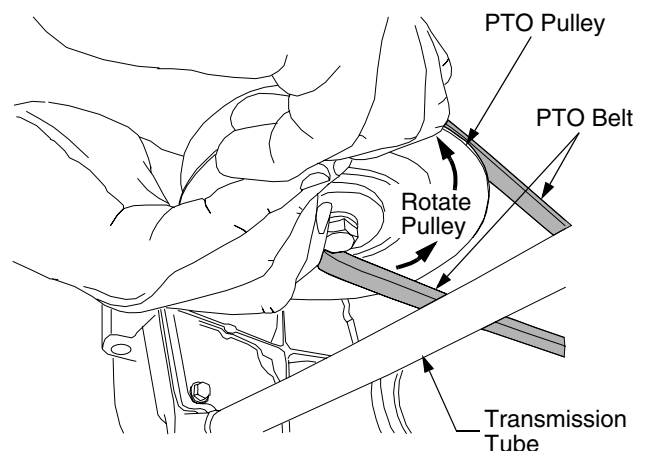

Figure 30
- Pull the right side of the belt rearward and place the narrow V side of the belt into the PTO pulley. See Figure 30.
- While holding the belt and pulley together, rotate the pulley to the left (See Figure 30). Continue holding and rotating the pulley and belt until the belt is fully rolled into the PTO pulley. **NOTE:** If using the left side of the belt, turn the pulley to the right.